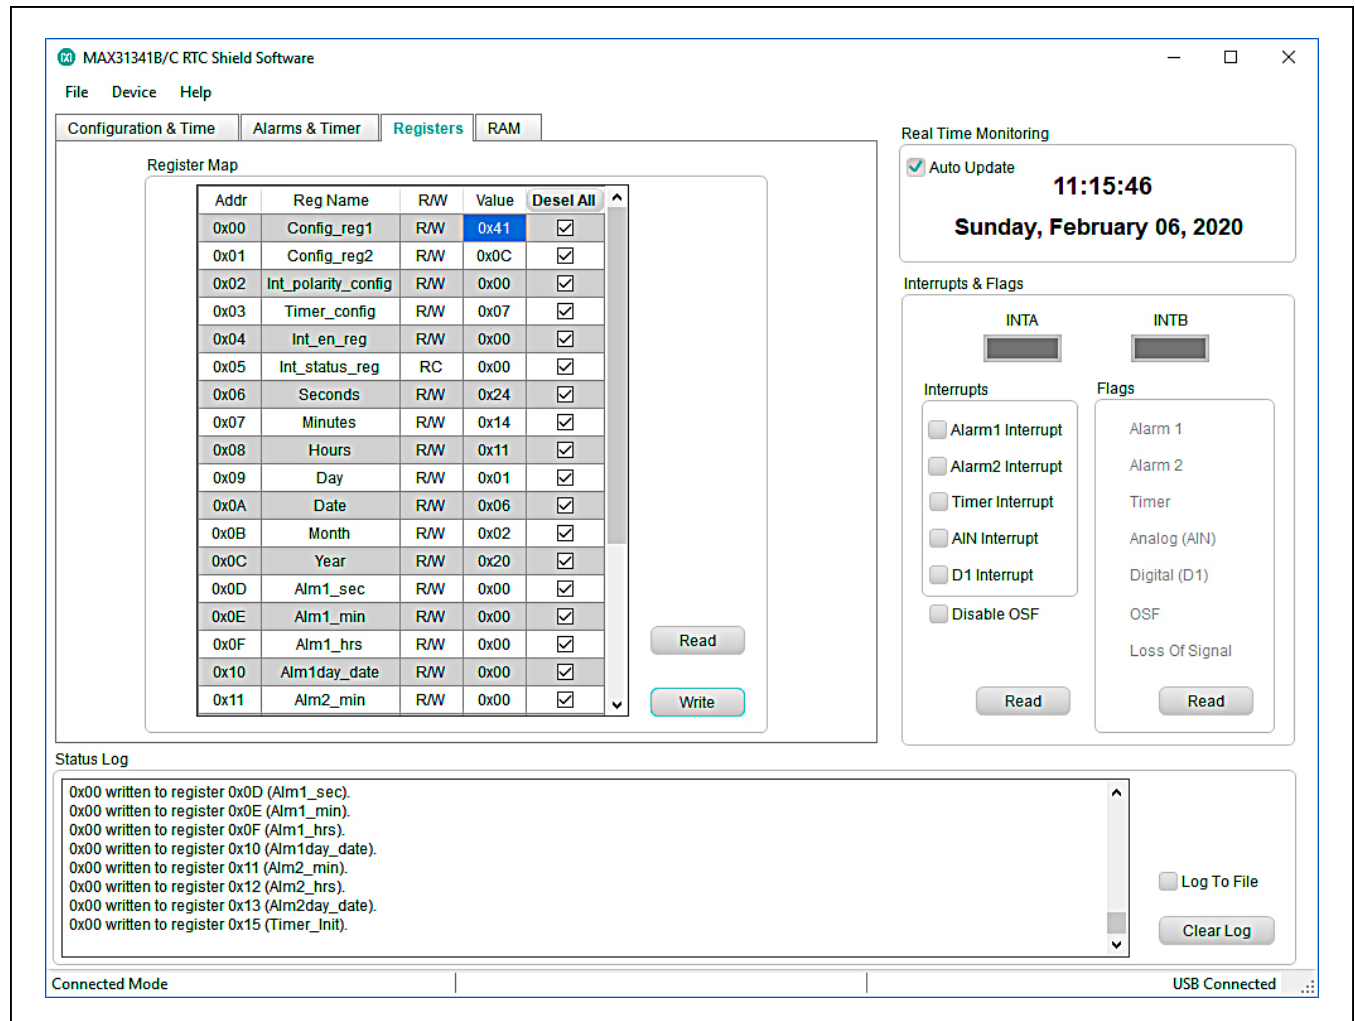

Figure 5. MAX31341B/C RTC Shield Software—Registers Tab
- 3) On the **Registers** tab (Figure 5), in the **Register Map** section, press the **Read** button and make sure that the value of register 0 (Config_reg1) shows 0x41. Otherwise, set it to 0x41 and press the **Write** button. Now the reading in the picometer is the current from the MAX31341B or MAX31341C only. It should be around 210nA.